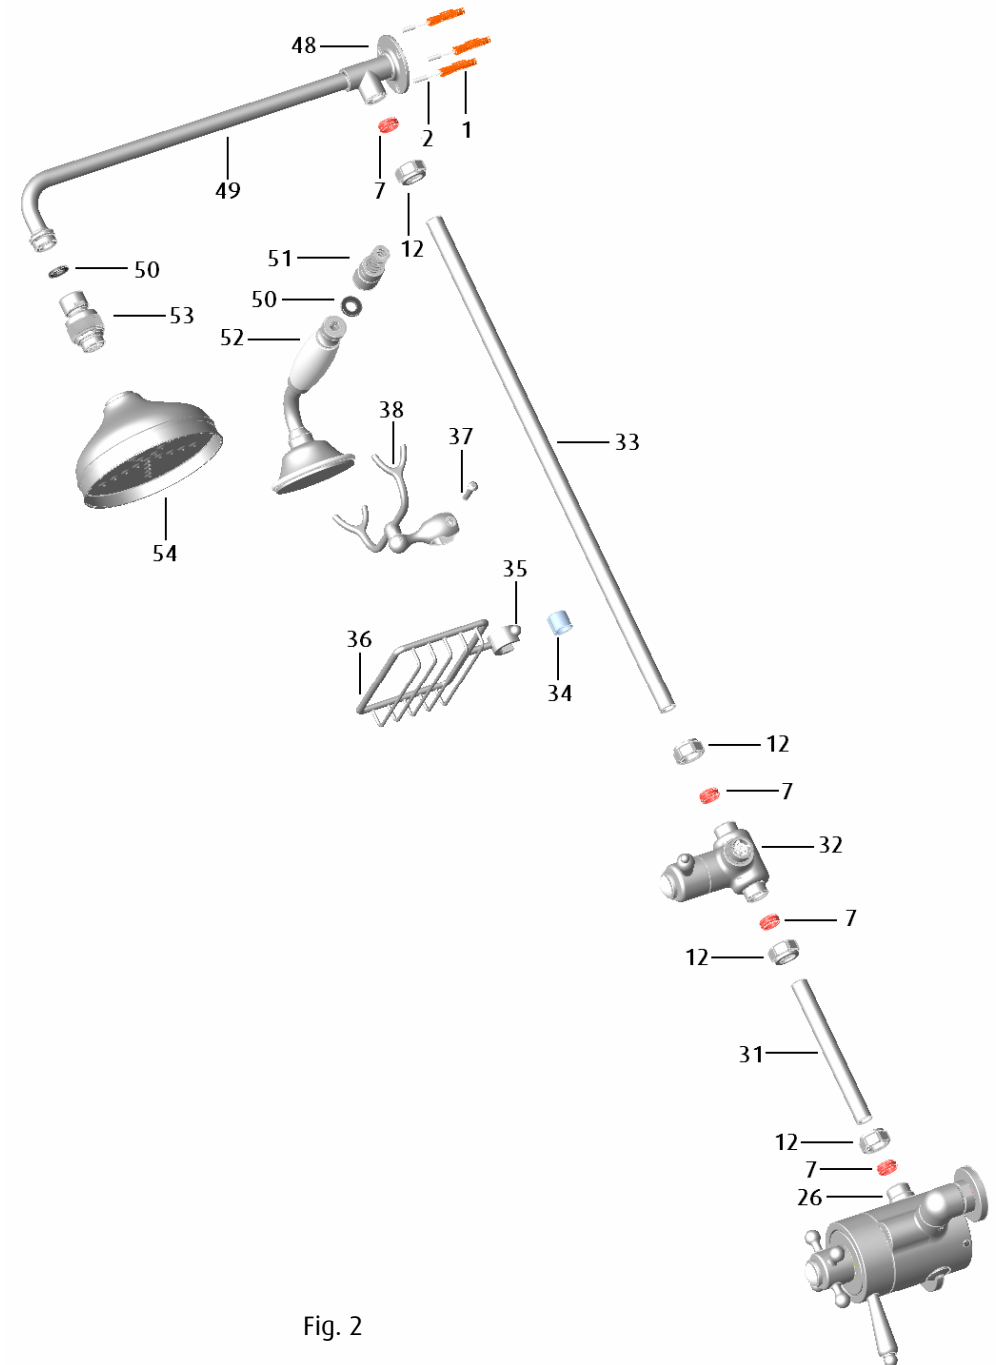

Fig. 2
4.3 Shower kit Installation (See Fig. 2)